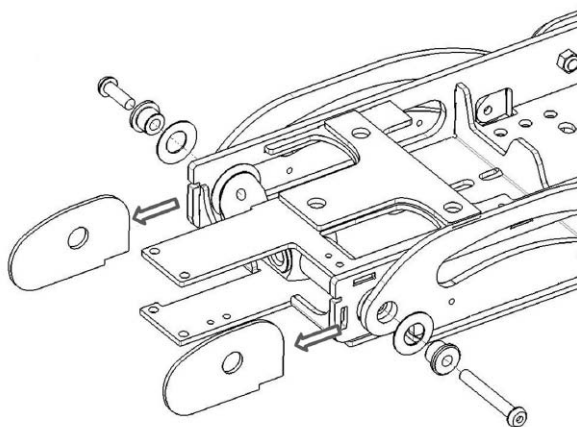

Fig. 8. Remove the two screws holding the seat tilt shaft and associated parts.
9. Remove the two screws holding the seat tilt shaft. See fig. 8.